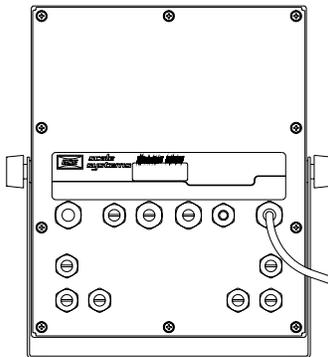

Figure 2-10: 665 Rear Panel
3. Using a #2 cross-tip (Phillips) screwdriver or an 8mm socket, remove the 10 8-mm hex head Phillips screws from the rear panel. See Figure 2-10 for a view of the rear panel.